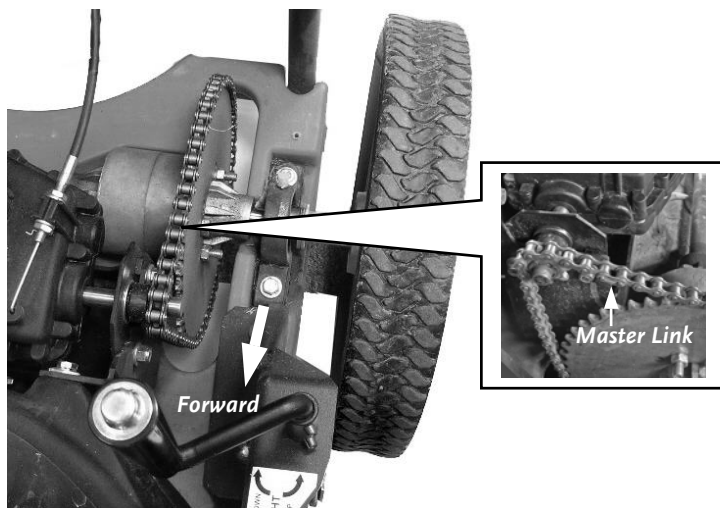

Figure 22
3. Using two (2) 1/2" Wrenches or Sockets, loosen the left side (viewed from behind Handlebars) Axle Bearing Mount Bolts and then slide the Bearing forward to the end of its travel (**Figure 22**).
4. Rotate the Left Rear Wheel to bring the Drive Chain "Master Link" into view on the Axle Sprocket (**Figure 22**).